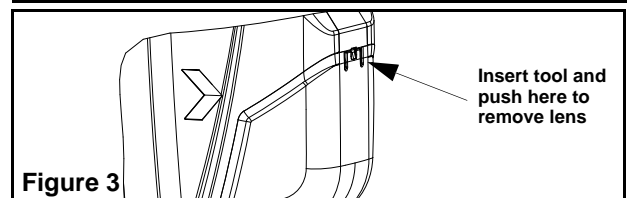
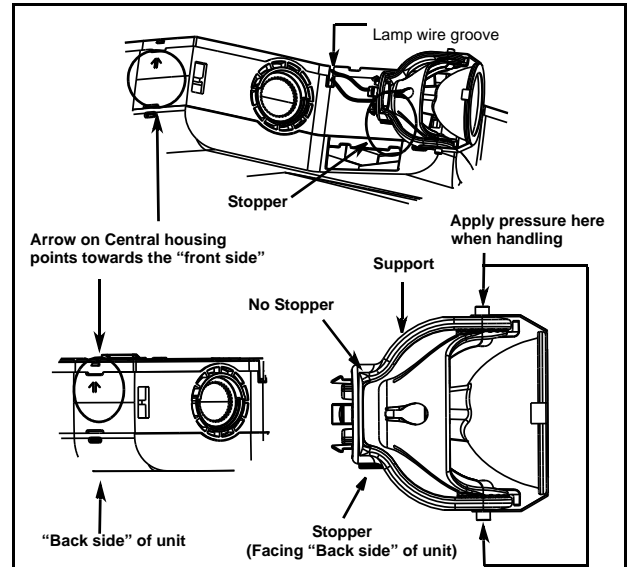

Figure 3
Figure 5
- Remove lenses (See Fig. 3) and discard plastic bags. Install lamps as shown in figure 5. Adjust the lamps in appropriate position. Re-install both lens.
3. Align and snap in place with "stopper" oriented per Figure 5.
4. Handle assemblies by applying a pressure on either end of the support per Figure 5.